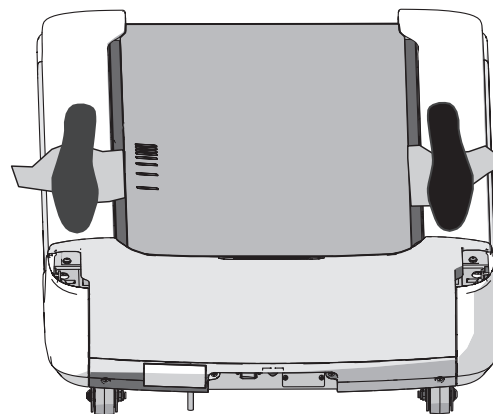

Figure 2
7. Stand firmly on both ends of the towel keeping your feet off of the treadmill running belt (Figure 2). Brace yourself using the handlebars or side hand rails.